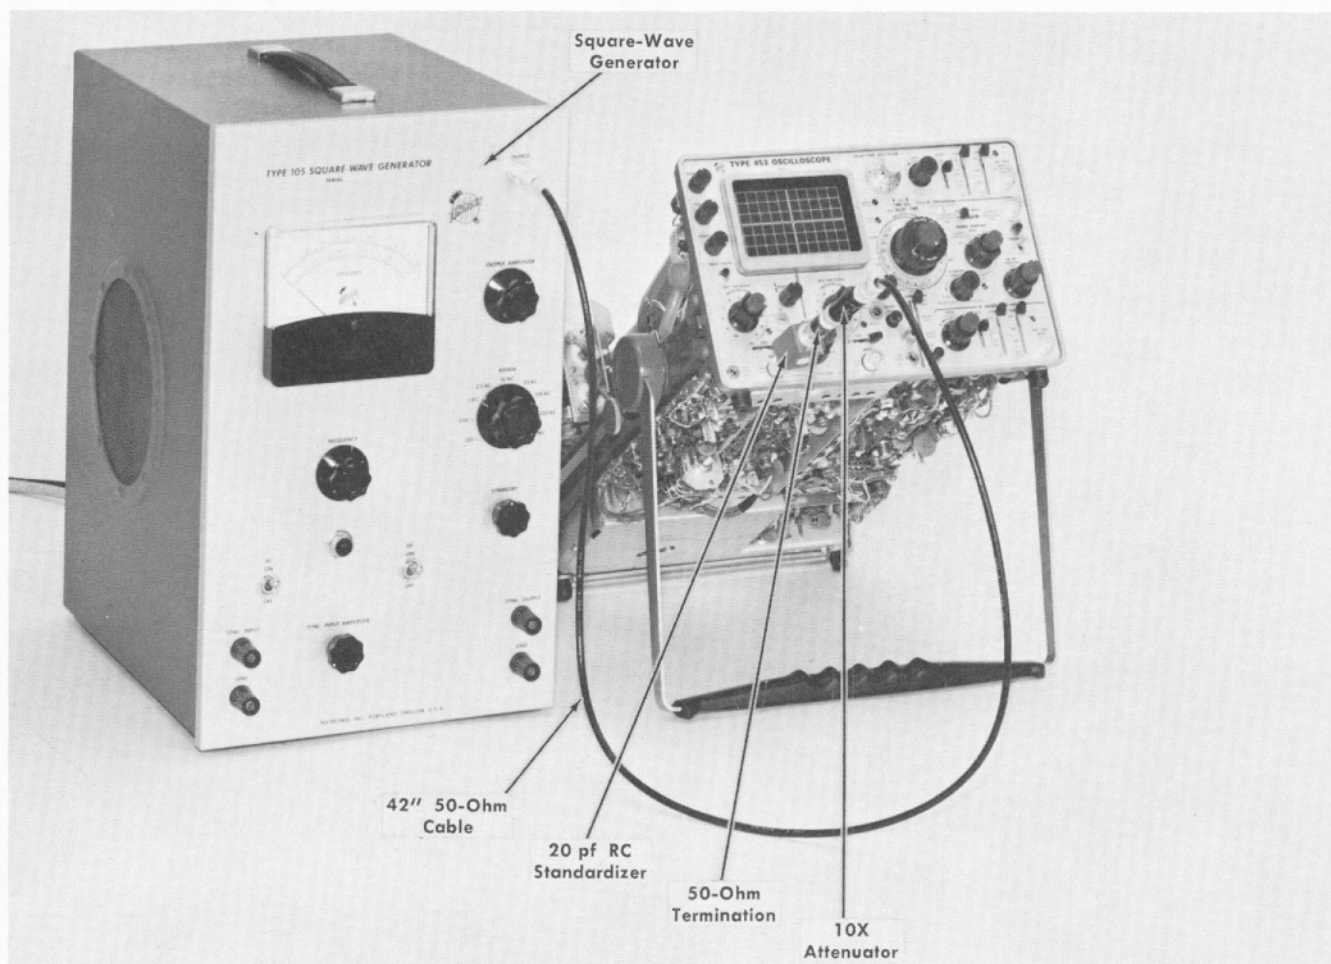

Fig. 6-24. Initial test equipment setup for steps 21 and 22.
a. Test equipment setup is shown in Fig. 6-24.
①